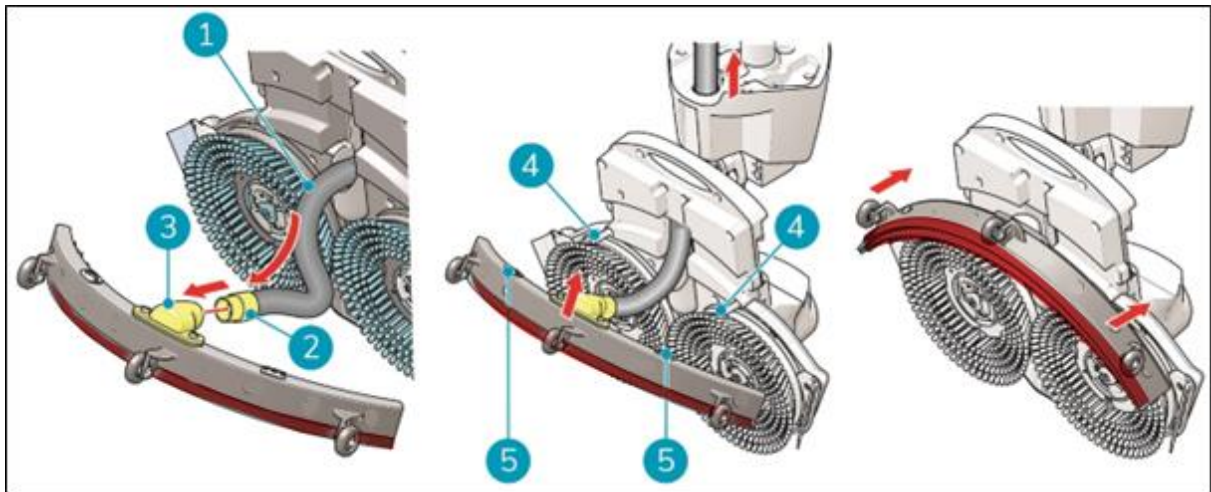

Figure 36
1. Take the vacuum hose (Figure 36, pos 1).
2. Insert the hose connector (Figure 36, pos 2) in the squeegee (Figure 36, pos 3).
3. Twist the hose connector 1/4 turn for a firm fit (Figure 36, pos 2).
6. Align the pins on the scrub deck (Figure 36, pos 4) with the holes on the squeegee (Figure 36, pos 5).